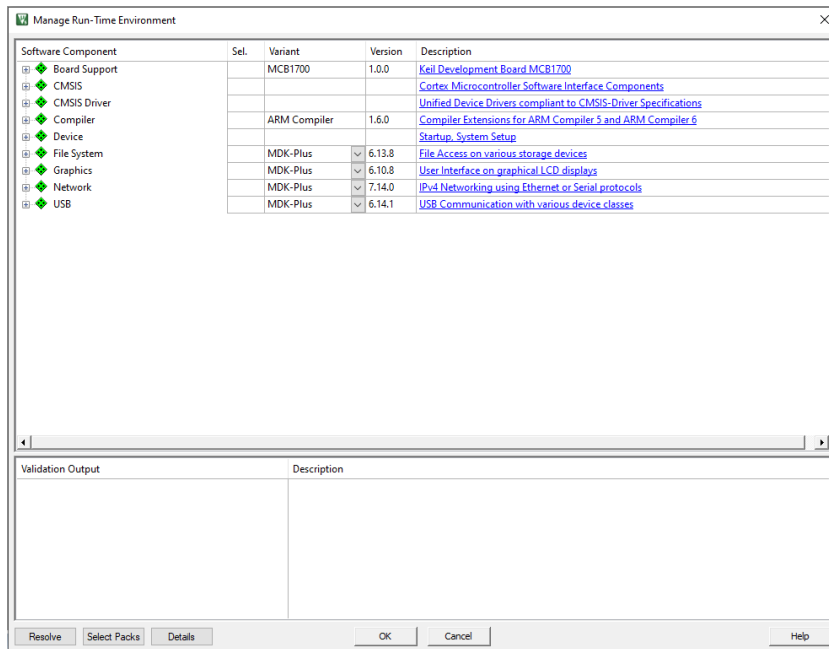
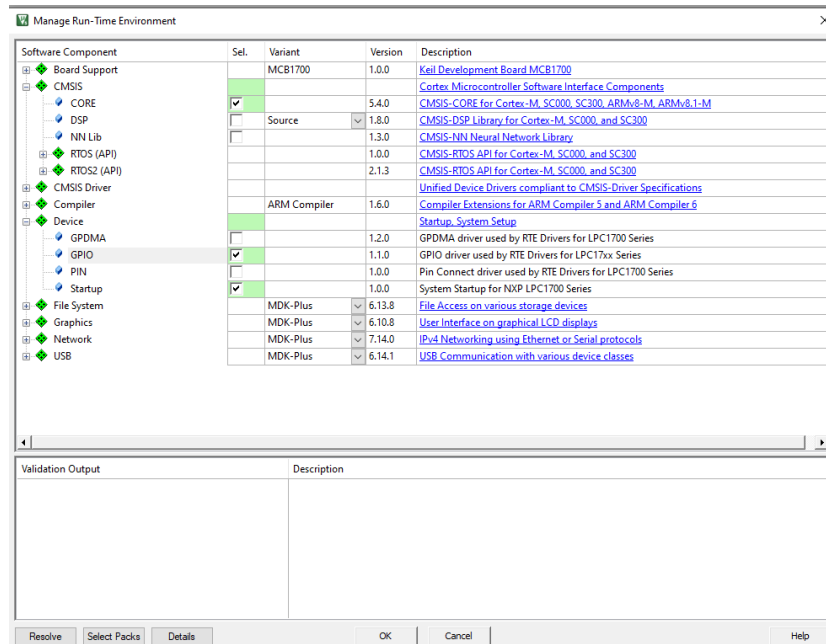

Figure 21
Figure 22
3. Then a window like Figure 21 one appears, is required to activate the cells CMSIS-CORE and Device-GPIO-Startup like in Figure 22.